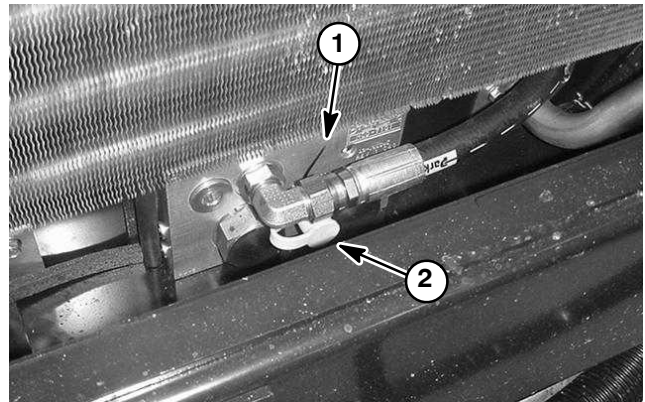

Figure 31
3. Connect a 1000 PSI gauge to test port on 2WD/4WD control manifold under radiator (Fig. 31).